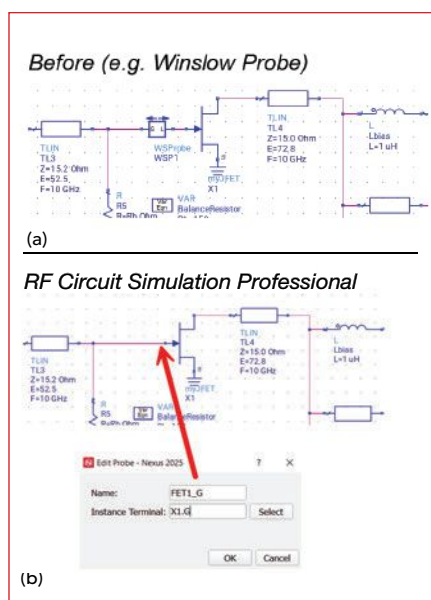

Fig. 1 Schematics of (a) a Winslow probe inserted directly versus (b) virtual insertion via the user interface.
- **Modernizing the user interface and uncluttering schematics:** User interface design directly affects user perceptions of ease of use. Powerful tools would start simulations directly from the schematic interface and avoid the creation of spin-off schematics to handle specific simulations. Layout versus schematic (LVS) verification could be more straightforward; the previous RF simulator inserts simulator controllers, probes (see **Figure 1**) and other info on a schematic, requiring stripping that information back out for error-free verification.